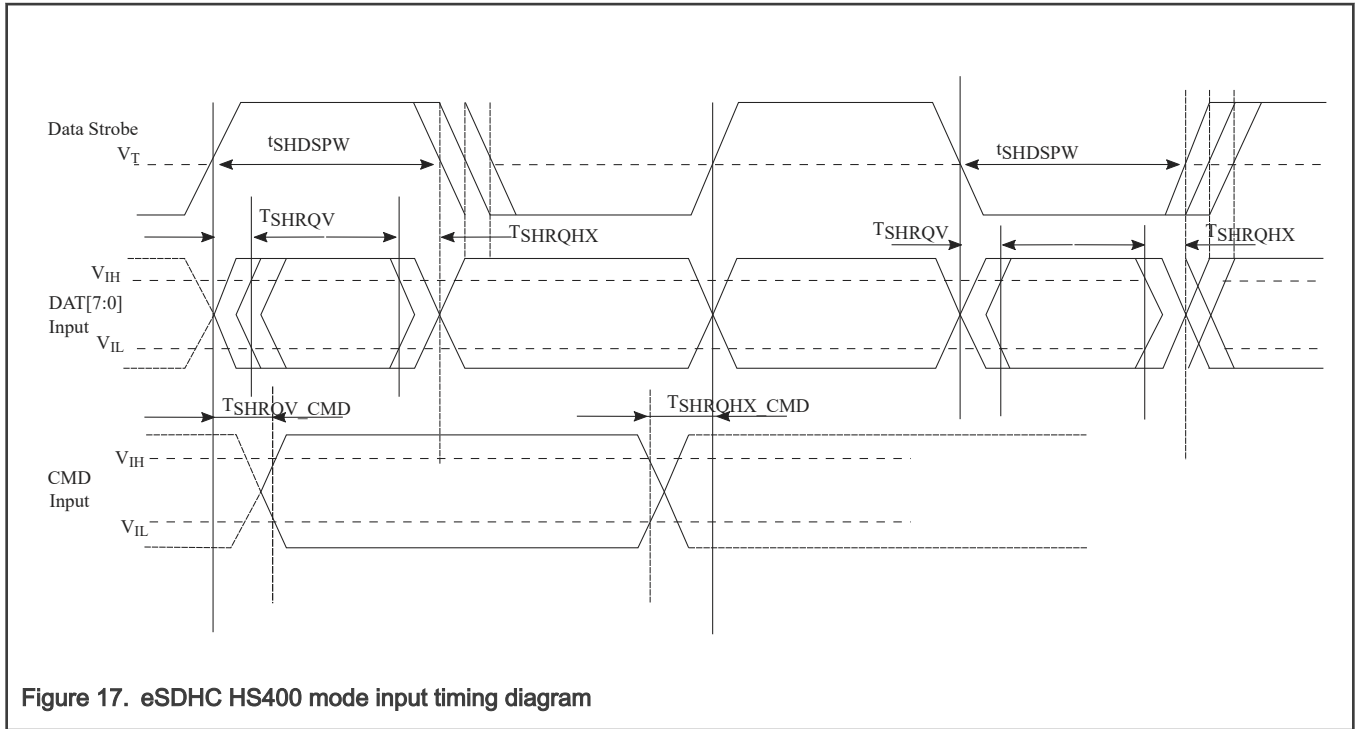

Figure 17. eSDHC HS400 mode input timing diagram
2. The symbols used for timing specifications herein follow the pattern of t_{(first two letters of functional block)(signal)(state) (reference)(state)} for inputs and t_{(first two letters of functional block)(reference)(state)(signal)(state)} for outputs. For example, t_{SHKHGX} symbolizes eSDHC highspeed mode device timing (SH) clock reference (K) going to the high (H) state, with respect to the output (O) reaching the invalid state (X) or output hold time. Note that in general, the clock reference symbol is based on five letters representing the clock of a particular functional. For rise and fall times, the latter convention is used with the appropriate letter: R (rise) or F (fall).
3. See Figure 17.